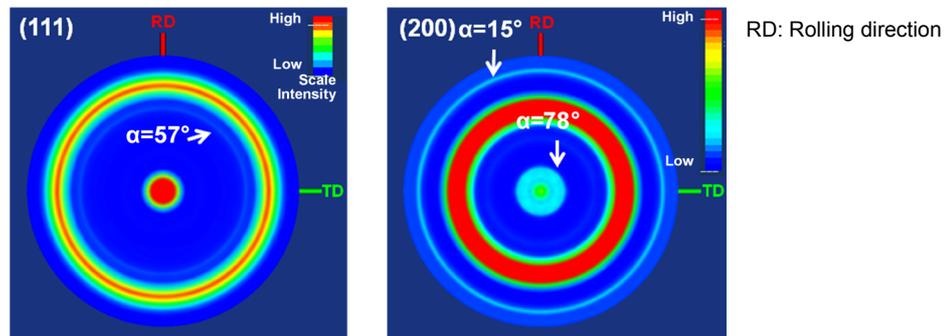
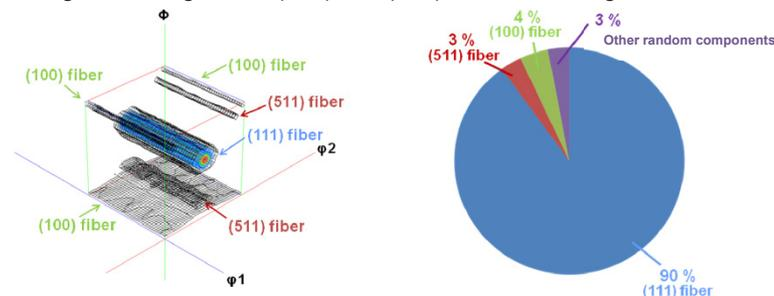

Fig. 2: Pole figures of (111) and (200) of the Cu wiring film
Fig. 3: ODF Analysis of the Cu wiring film
Fig. 2 shows the pole figures of (111) and (200) of the Cu wiring film after the corrections. From Fig. 3 we understand that the (111) pole figure has a ring of low pole density at  $\alpha = 57^\circ$  different from the main orientation, so does the (200) pole figure at  $\alpha = 15^\circ$  and  $78^\circ$ . The analysis of the Cu wiring film based on the Orientation Distribution Function showed that besides [111], also the orientations [511] and [100] exist towards the Normal direction ND (Fig. 3). Thus it is possible to quantitatively analyze the oriented texture by calculating the volume fraction.